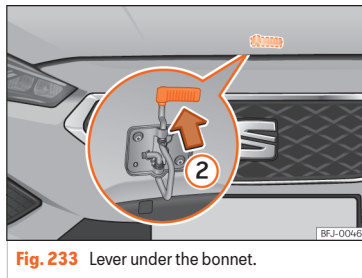

Fig. 233 Lever under the bonnet.
- To lift the bonnet, press the release catch under the bonnet upwards »»» Fig. 233 (2). The arrester hook under the bonnet is released.